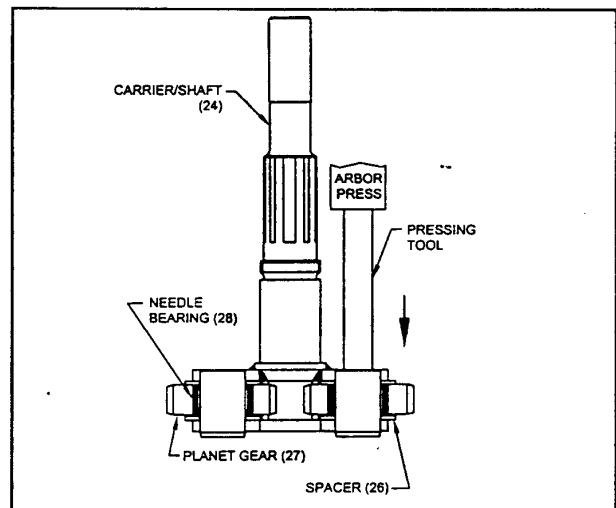

Figure 6. Carrier Shaft Disassembly
Place carrier shaft/gear assembly on arbor press with splined shaft up. With carrier shaft (24) supported, press each pin (25) out opposite the spline shaft. Refer to figure 6.